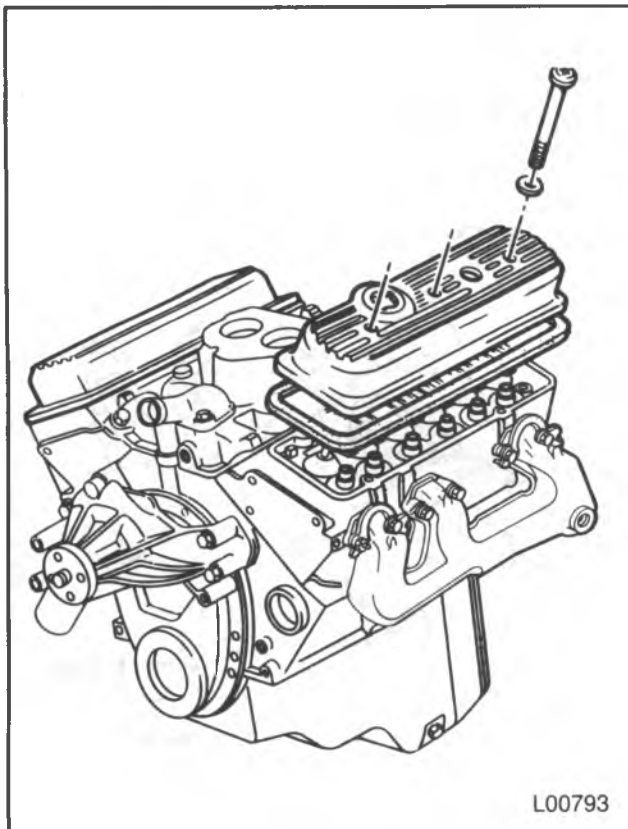

Figure 3 — Rocker Arm Cover
**Remove or Disconnect (Figure 3)**
**Install or Connect (Figure 3)**